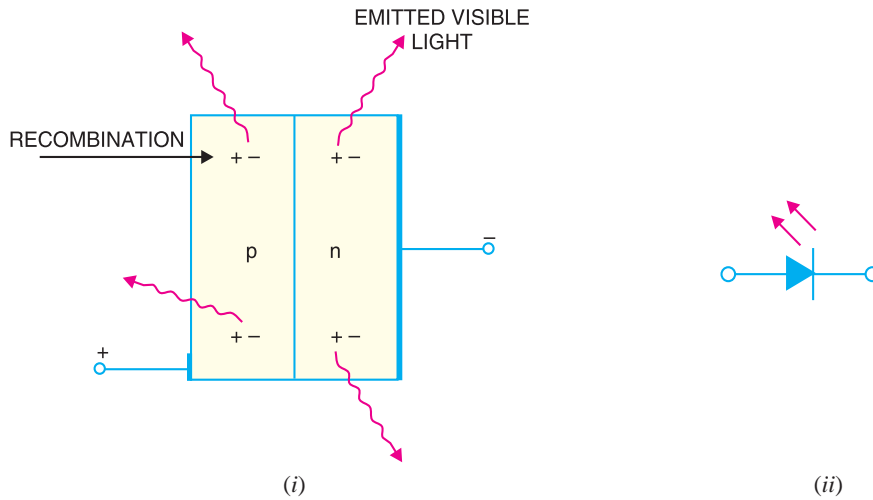
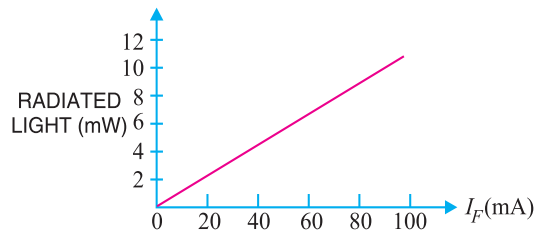

Fig. 7.2
Fig. 7.3
**Theory.** When light-emitting diode (LED) is forward biased as shown in Fig. 7.2 (i), the electrons from the  $n$ -type material cross the  $pn$  junction and recombine with holes in the  $p$ -type material. Recall that these free electrons are in the conduction band and at a higher energy level than the holes in the valence band. When recombination takes place, the recombining electrons release energy in the form of heat and light. In germanium and silicon diodes,
Fig. 7.2 (ii) shows the schematic symbol for a LED. The arrows are shown as pointing away from the diode, indicating that light is being emitted by the device when forward biased. Although LEDs are available in several colours (red, green, yellow and orange are the most common), the schematic symbol is the same for all LEDs. There is nothing in the symbol to indicate the colour of a particular LED. Fig. 7.3 shows the graph between radiated light and the forward current of the LED. It is clear from the graph that the intensity of radiated light is directly proportional to the forward current of LED.